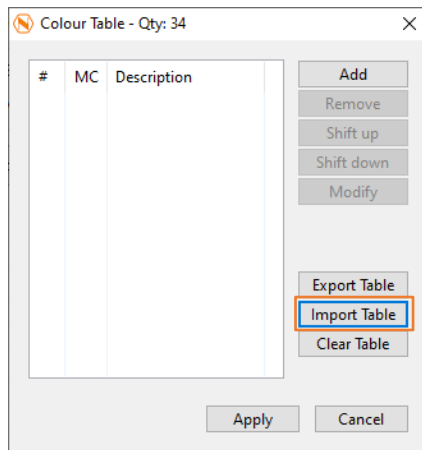

Figure 267
60. If the appearing Colour Table is not empty as shown in Figure 267 just press the -Clear Table- button.
61. Next click **Import Table** (Figure 267).